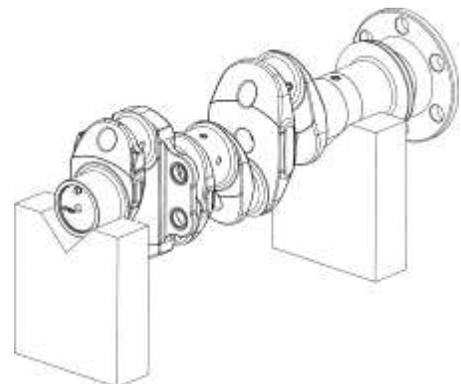

Figure 9
- I. Put the crankshaft in a suitable V-block-type fixture as shown in Figure 9.